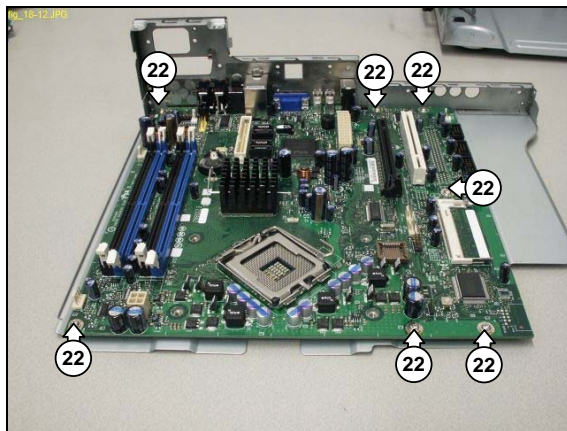

Figure 12.16-14
11. Remove the 7 mounting screws (22) from the motherboard tray base. See Figure 12.16-14.